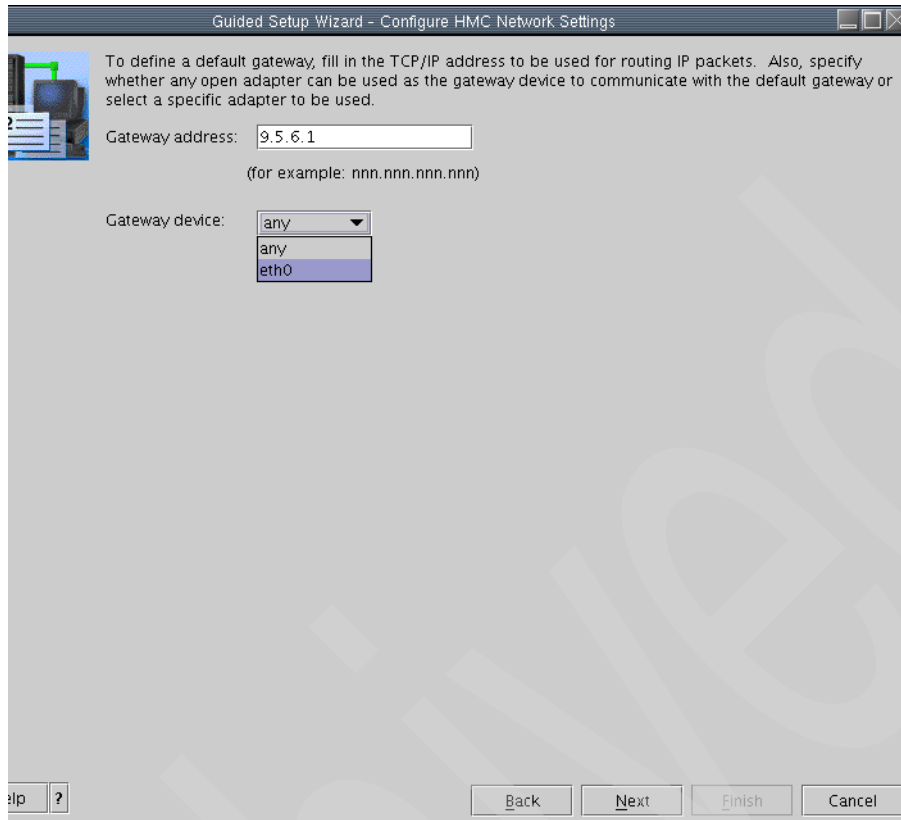

Figure 4-23 Guided Setup - eth1 gateway selection
23. The Guide Setup Wizard - Configure eth1 panel is now shown (Figure 4-23). We can specify that the eth1 LAN adapter act as a gateway device to our open network. Enter your gateway IP address in the Gateway address field. If you don't know your gateway address, then you should contact your network administrator.